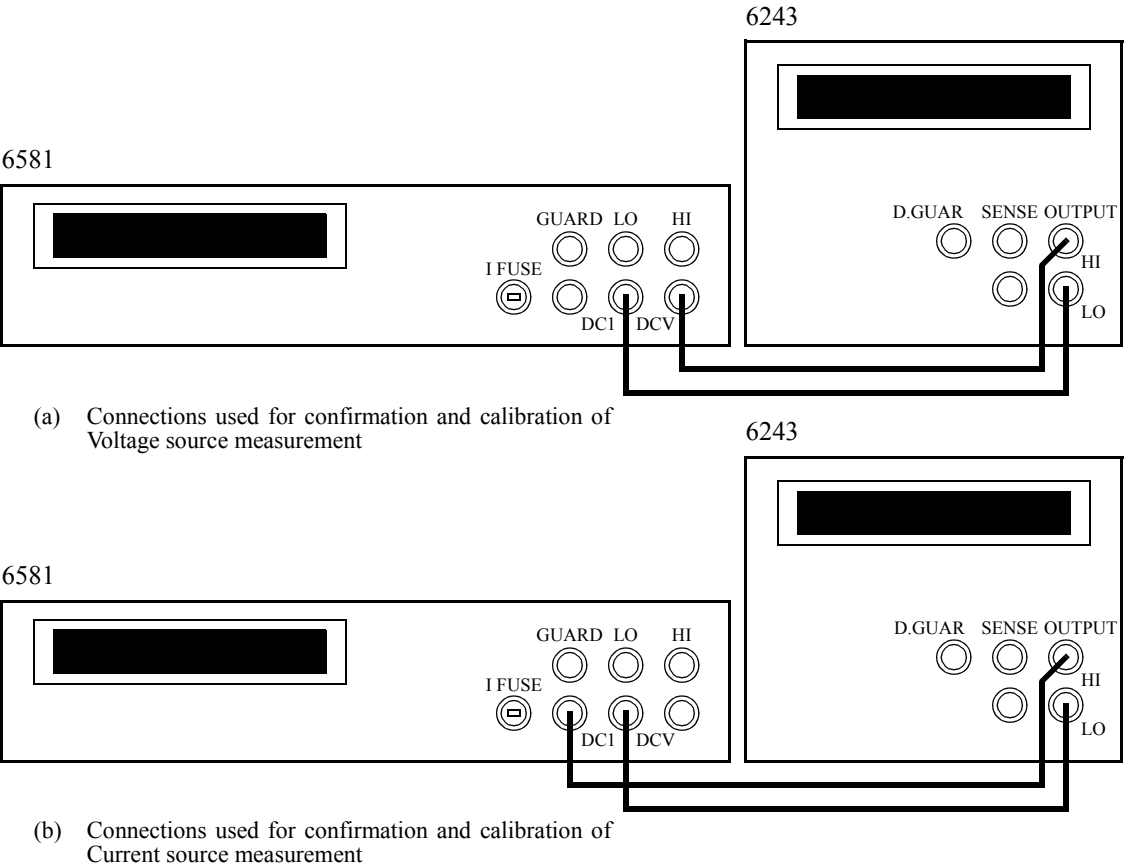

Figure 8-1 Connections for Calibration
The connections required for the performance tests are the same as those shown in “Figure 8-1 Connections for Calibration.”
1. Connect the 6243 and the DMM (Digital Multi-Meter) as shown in Figure 8-1 (a).
1. Connect the 6243 and the DMM as shown in Figure 8-1 (b).
Figure 8-1 shows the connections for calibration using the 6581.
Calibration of voltage source is performed with the connections shown in Figure 8-1 (a) and the DC Voltage function and auto range are used for the DMM measurement function.
But the connections are made as shown in Figure 8-1 (b) and the DC current function and auto range are used for the DMM measurement function.
Calibration of voltage measurement is performed with the connections shown in Figure 8-1 (a) and the DCV function and auto range are used for the DMM measurement function.
Calibration of current measurement is performed in the same way as calibration of voltage measurement. However, the connections are made as shown in Figure 8-1 (b) and the DCI function and auto range are used for the DMM measurement function.